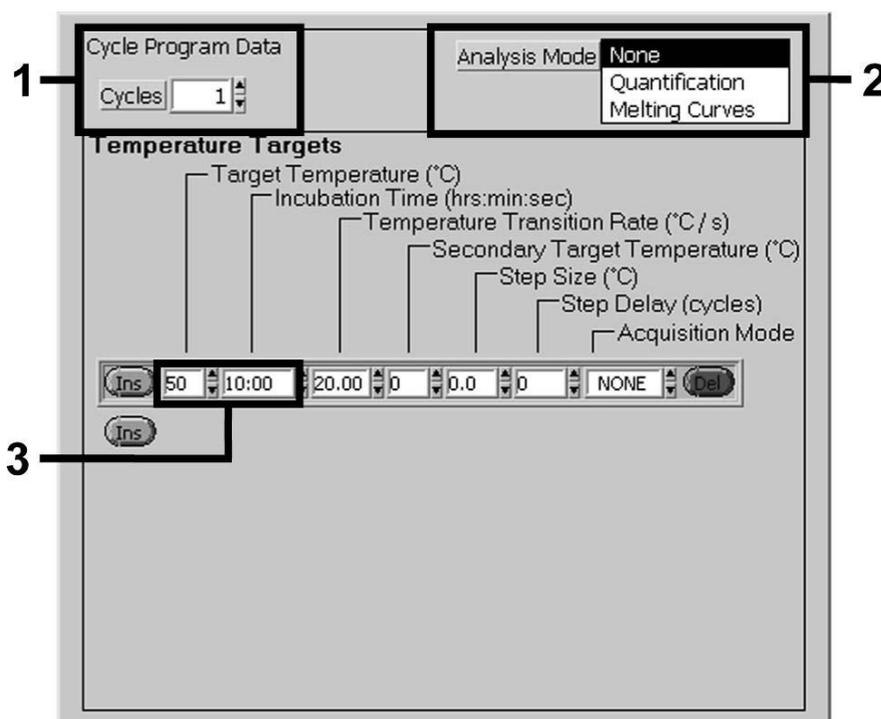

Fig. 3: Reverse Transcription of the RNA.
For the detection of influenza virus RNA, create a temperature profile on your *LightCycler*[®] Instrument according to the following four steps (see Fig. 3 - 6).
- A. Reverse Transcription of the RNA Fig. 3